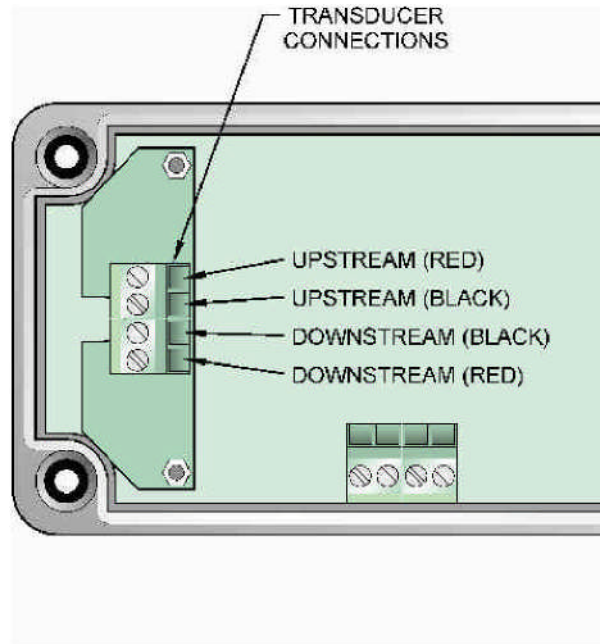

Figure 1.3
2. The terminals within HTTF are a cable-clamp type. Connect the appropriate wires to the corresponding screw terminals in the transmitter. See **Figure 1.3**. Secure wires by tightening to between 0.5 and 0.6 Nm of torque.